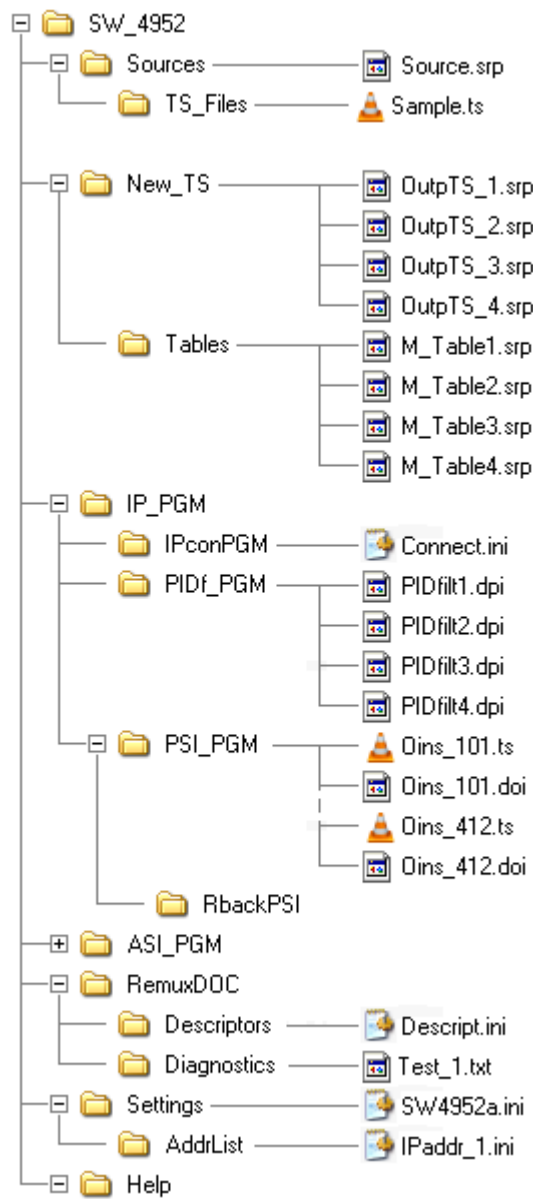

Figure 10.1
5. The report of the input transport streams is saved in the Source.srp file. The file comprises a 4096-byte header and then the data of the transport streams in flexible ($n \times 1024$) sized units. The structure of the transport stream report (OutpTS_1.srp) edited by the user is the same, but comprises only the data of one transport stream following the 4096-byte header. The structure of the Table Report made by the software is the same, but some parts of the data arrangement are unlike. The structure of these three files is complicated, so it is not published, and it is not necessary for creating the user's individual software. The arrangement of the directories and data storages of the SW-4952 software is shown in Figure 10.1.